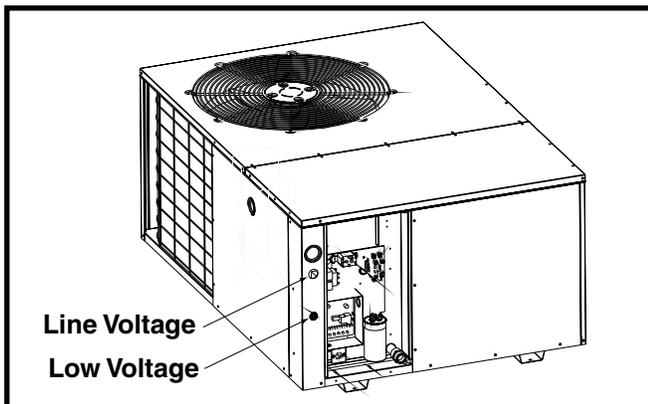

Figure 7. Power Entry
- Provide power supply for the unit in accordance with the unit wiring diagram, and the unit rating plate. Connect the line-voltage leads to the terminals on the contactor inside the control compartment. Extend leads through power wiring hole (Figure 7). Connect L1 & L2 directly to the contactor.
- The low voltage wires must be properly connected. Route 24V control wires through the sealing grommet (Figure 7, page 7) near the power entrance. Recommended wire gauge and wire lengths for typical thermostat connections are listed in Table 2 (page 9).